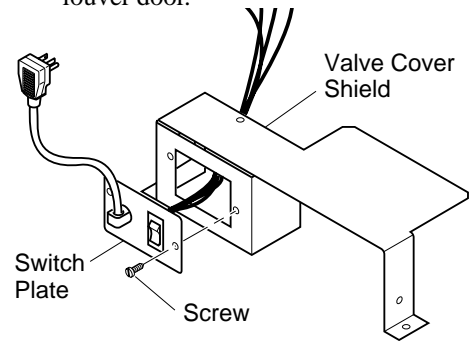
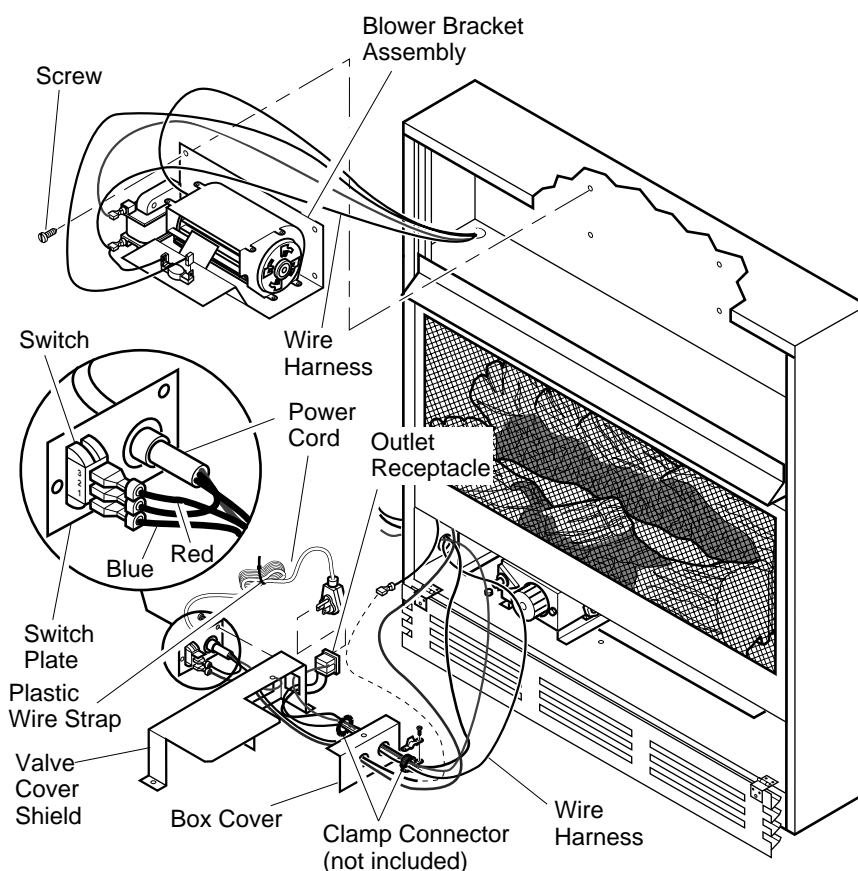

Figure 19 - Installing Switch Plate to Valve Cover Shield
Figure 21 - Installing Blower Bracket Assembly
5. Plug power cord to the outlet receptacle (not provided) as shown in figure 19. Wind the extra cable in power cord and tie it up with the plastic wire strap (see Figure 21). Set the cable bundle between the burner bracket and outer casing, away from the burner.